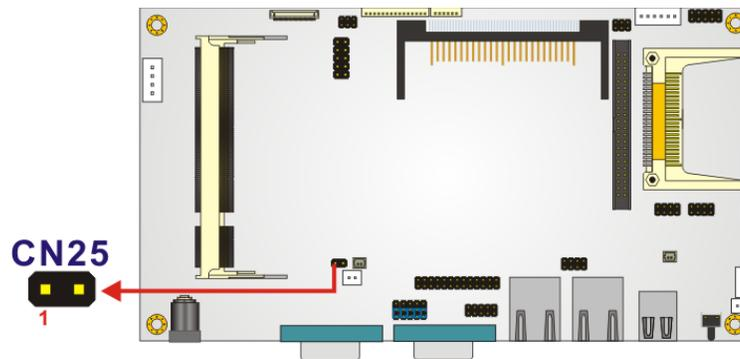

Figure 3-3: AT/ATX Power Select Jumper Location
- Jumper Location:** See Figure 3-3
The location of the AT/ATX Power Select jumper is shown in **Figure 3-3** below.